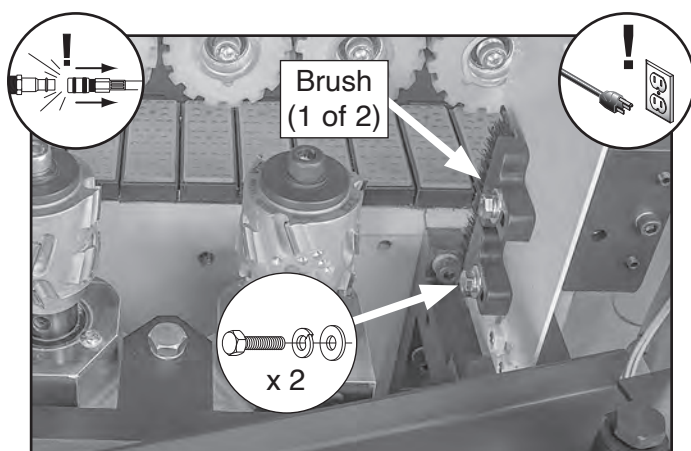

Figure 138. Location of cutterhead brushes (cutterhead guard removed for clarity).
4. Loosen fastener securing brush (see **Figures 138–140**), slide brush forward or backward until bristles overhang edge approximately $\frac{1}{16}$ ", then tighten fastener.